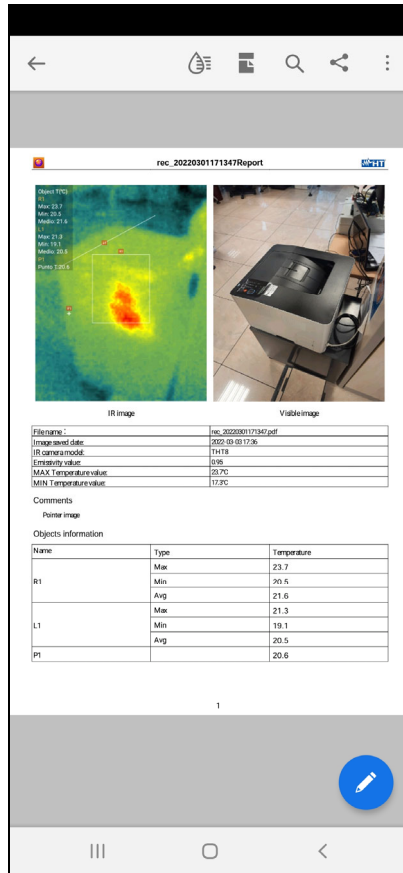

Fig. 13: Visualization of PDF report
5. The PDF report is automatically created and saved in the "**DCIM/Report_pdf**" folder of the connected mobile device as shown in Fig. 13